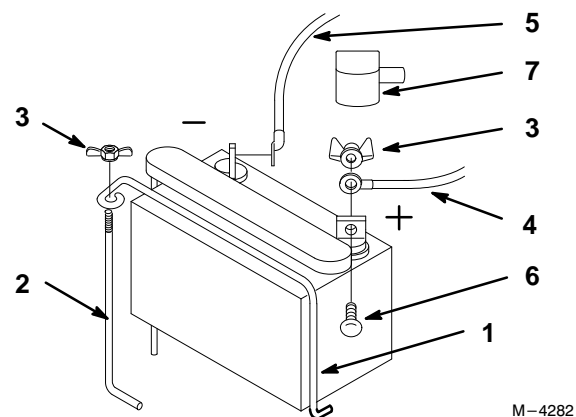

Figure 5
1. Mount battery on battery support with terminal posts toward gas tank (Fig. 5).
2. Secure battery with clamp, support rod and wing nut (Fig. 5).
3. Slide the red terminal boot onto the red battery cable (Fig. 5).
4. Install the positive battery cable to positive (+) battery terminal and the negative battery cable to the negative (-) battery terminal and secure with carriage bolts and lock nuts (Fig. 5).